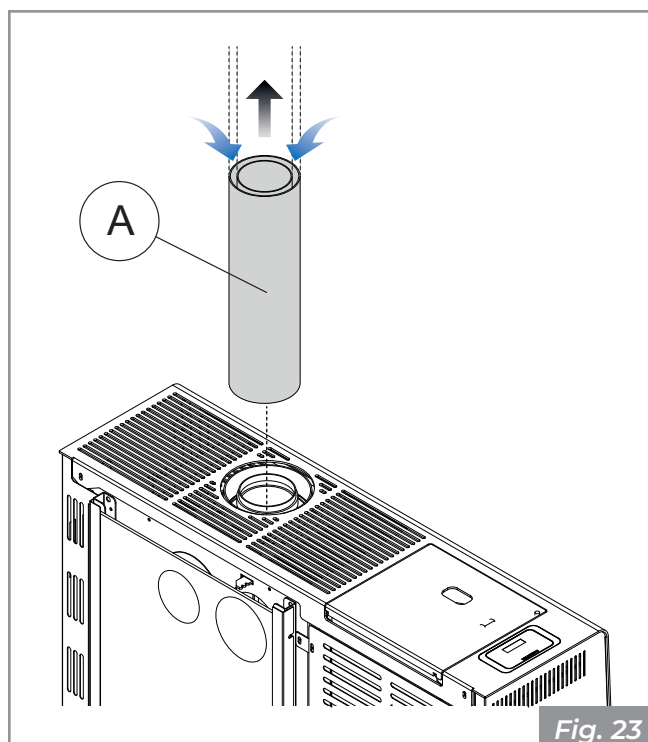

Fig. 23
- Connect a coaxial pipe **(A)** as the stove is already configured in the factory for this type of installation **(Fig. 23)**